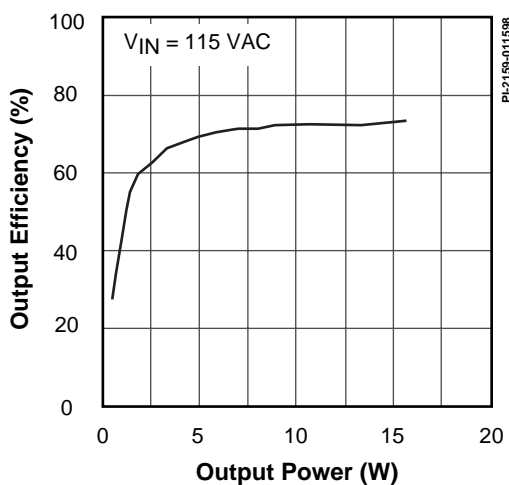

Figure 10. Output Efficiency vs. Output Power, 115 VAC Input
**Efficiency (Load Dependent)** – The curves in Figures 10 and 11 show how the efficiency changes with output power for 115 VAC and 230 VAC inputs.